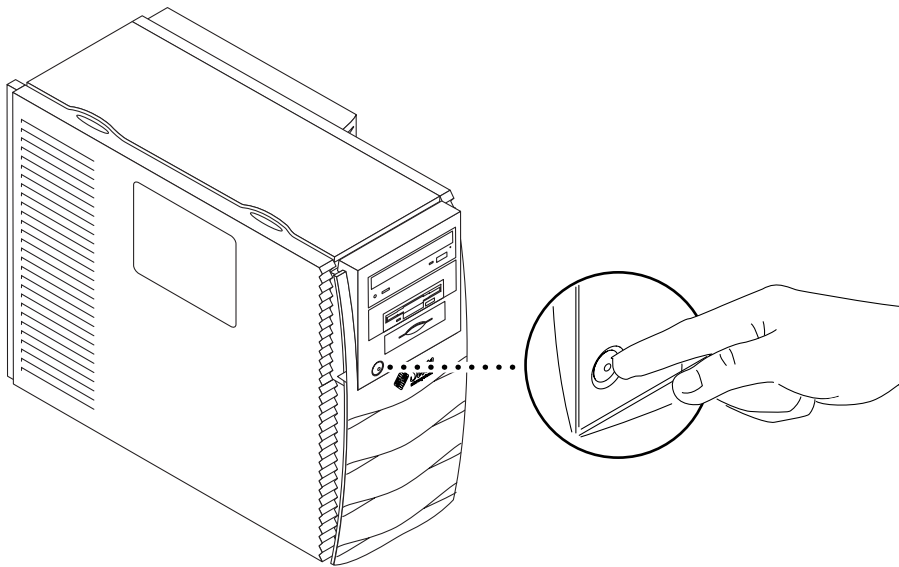

FIGURE 9-3 System Power Switch
2. Press the power switch on the front panel and release it (FIGURE 9-3).